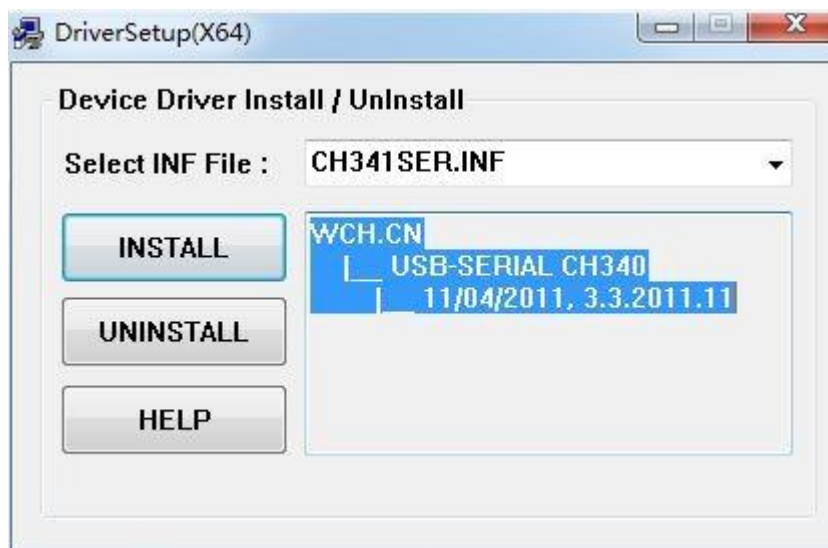

Fig 10
- DriverSetup(X64) will pop out once the above installation finished, as Fig 10.